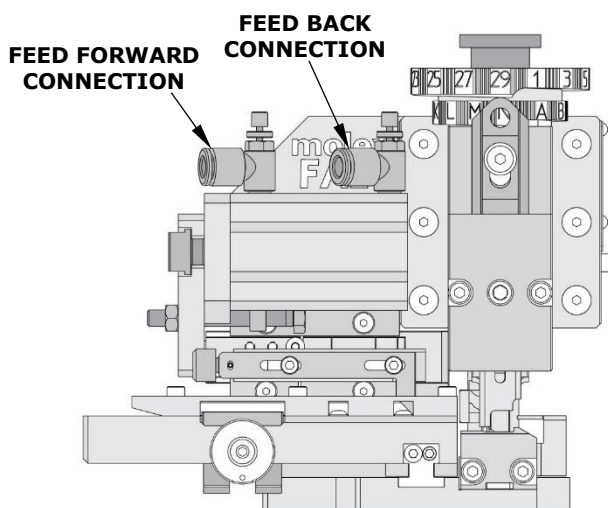

Figure 4
- Pneumatic tubes must be connected as shown in Figure 4. Tubes are typically connected so the terminal feed is forward when the applicator ram is up.